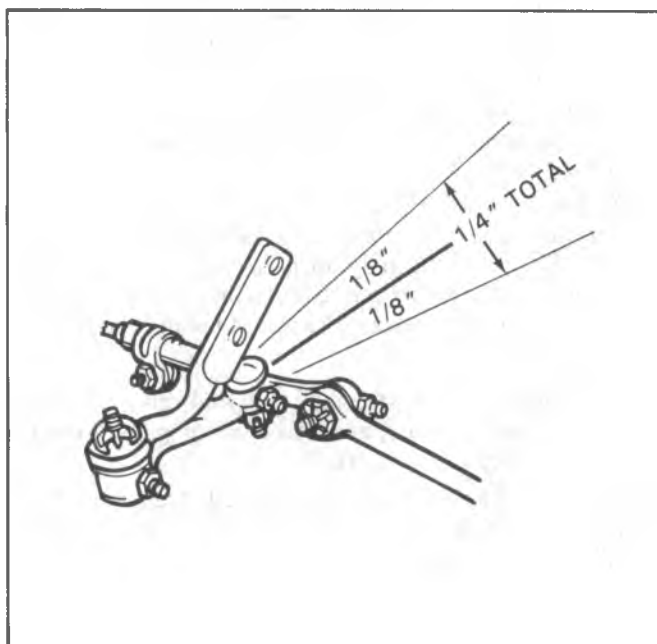

Fig. 3B1-10--Checking Idler Movement, Typical
2. Install the relay rod to the idler arm and pitman arm ball studs, making certain the seals are in place. Use a free-spinning nut to seat the tapers, per Fig. 3B1-6.
2. Using a push pull type spring scale located as near the relay rod end of the idler arm as possible, exert a 25 lb. force upward and then downward while noticing the total distance the end of the arm moves. This distance should not exceed  $\pm 1/8$  inch for a total acceptable movement of 1/4 inch (Figure 3B1-10). It is necessary to ensure that the correct load is applied to the arm since it will move more when higher loads are applied.
2. Remove the nut from ball stud at the relay rod. Remove the ball stud from the relay rod by tapping on the relay rod boss with a hammer, while using a heavy hammer as a backing (Fig. 3B1-7).
3. Install the idler arm ball stud in the relay rod, making certain the seal is positioned properly. Use a  $\frac{5}{8}$ -18 free-spinning nut to seat the tapers, per Fig. 3B1-6.